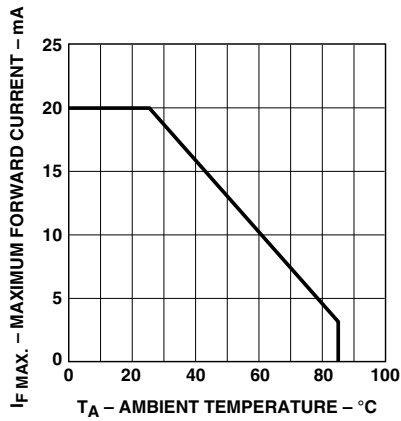

Figure 4. Maximum Forward Current vs. Ambient Temperature.
1. Derate linearly as shown in Figure 4 for temperature above  $25^\circ\text{C}$ .